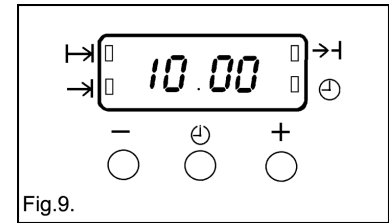

Fig.9.
- i) Ensure the electricity supply is switched ON and that the correct time of day is displayed, e.g. 10.00 a.m. as Fig. 9.